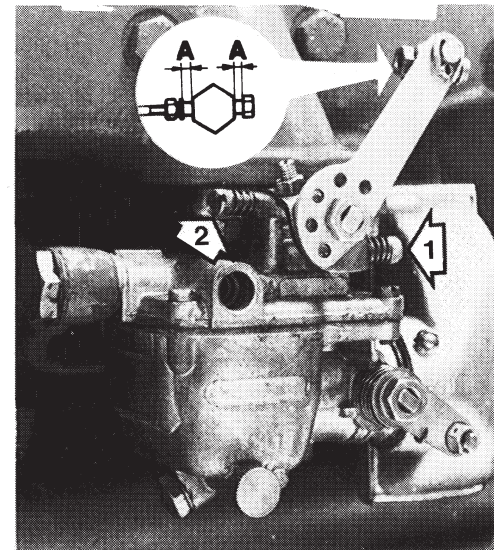

Fig. 20. Carburetor, Solex 26VBN2
1. Check when the throttle control is in neutral position that the connecting sleeve of the control cable has a clearance of 1.5 mm (1/16") (A, Fig. 20) on each side of the "dice". Adjustments can be made partly with the carburetor lever and partly with the control lever.
2. Run the engine warm and check the idling speed, see under "Technical Data". Adjust the idling screw (1, Fig. 20) when necessary. If the engine runs unevenly, adjust the air screw (2) until even running is obtained. Check to make sure that the connection sleeve for the control cable has the proper clearance according to point 1.